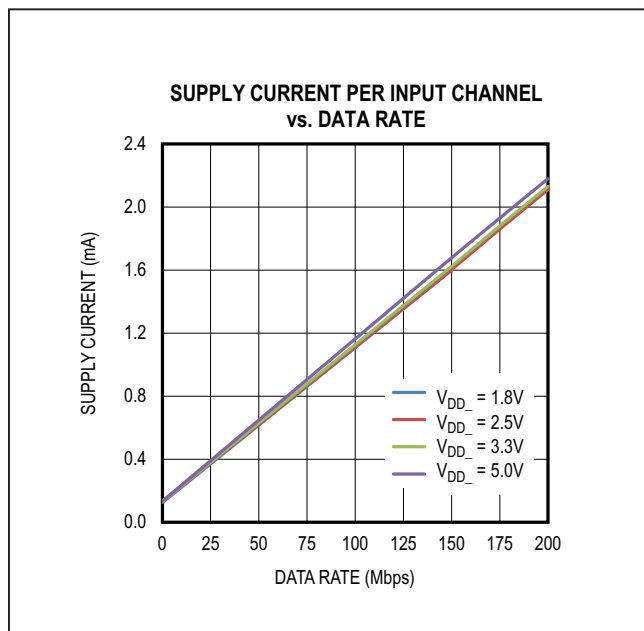
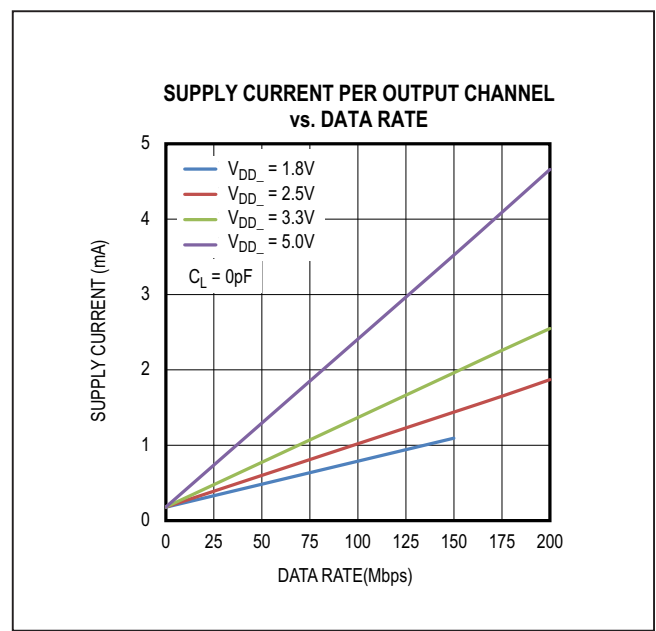

Figure 9. Supply Current Per Input Channel (Estimated)
Figure 10. Supply Current Per Output Channel (Estimated)
The required current for a given supply (VDDA or VDDB) can be estimated by summing the current required for each channel. The supply current for a channel depends on whether the channel is an input or an output, the channel's data rate, and the capacitive or resistive load if it is an output. The typical current for an input or output at any data rate can be estimated from the graphs in Figure 9 and Figure 10. Please note the data in Figure 9 and Figure 10 are extrapolated from the supply current measurements in a typical operating condition.
The total current for a single channel is the sum of the “no load” current (shown in Figure 9 and Figure 10) which is a function of Voltage and Data Rate, and the “load current,” which depends on the type of load. Current into a capacitive load is a function of the load capacitance, the switching frequency, and the supply voltage.
- Channel 1 is an input channel operating at 2.5V and 20Mbps, consuming 0.33mA, estimated from Figure 9.
- Channel 2 and 3 are input channels operating at 2.5V with DC signal, consuming 0.13mA, estimated from Figure 9.
- Channel 4 is an output channel operating at 2.5V and 100Mbps, consuming 1.02mA, estimated from Figure 10.
- Channel 1 is an output channel operating at 3.3V and 20Mbps, consuming 0.42mA, estimated from Figure 10.
- Channel 2 and 3 are output channels operating at 3.3V with DC signal, consuming 0.18mA, estimated from Figure 10.
- Channel 4 is an input channel operating at 3.3V and 100Mbps, consuming 1.13mA, estimated from Figure 9.